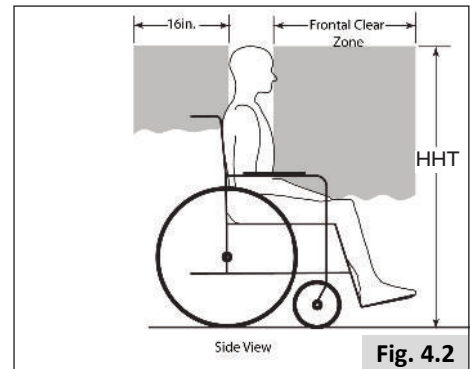

Fig. 4.2
4. The estimated seated height (HHT) from the ground or floor to the top of the wheelchair-seated occupant's head ranges from approximately 47" (119 cm) for a small adult female to about 61" (155 cm) for a tall adult male (Fig. 4.2).